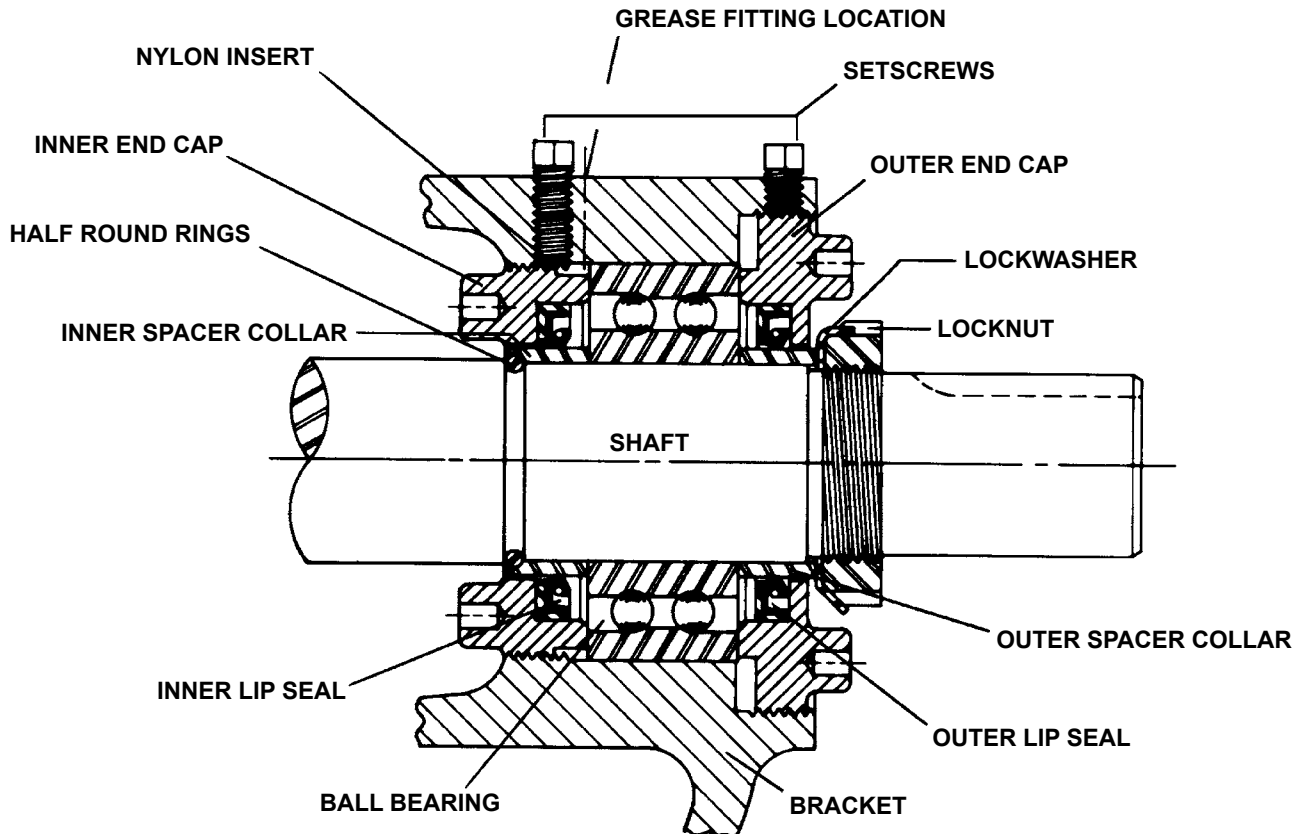

FIGURE 4
5. Tap the shaft forward approximately ½ inch and check for a pair of half circle, round wire rings under the inner bearing spacer collar. **See Figure 4.**
8. Loosen the four setscrews over the inner and outer end caps. Remove both end caps, lip seals and bearing spacer collars. **See Figure 4.**
Place the pair of half round rings (not used on Q, QS and M) in the shaft and slide the inner spacer collar over them. **See Figure 4.**
NOTE: The end cap must be turned so far that the lip of the seal drops off the end of the spacer collar on the shaft or the end cap becomes disengaged with the threads. **See Figure 4.**
10. Install the lip seal (lip toward end of shaft) and bearing spacer in the outer end cap and turn the end cap into the bracket until tight against the bearing. **See Figure 4.**
11. Put lockwasher and locknut on shaft. Insert length of hardwood or brass through port opening between rotor teeth to keep shaft from turning. Tighten locknut to 120-150 ft.- lbs. Torque (LS) or 170-190 ft. – lbs. Torque (Q, QS, M). Bend one tang of lockwasher into slot of locknut. If tang does not line up with slot, tighten locknut until it does. Failure to tighten locknut or engage lockwasher tang could result in early bearing failure and cause damage to rest of pump. Remove length of hardwood or brass from port opening.